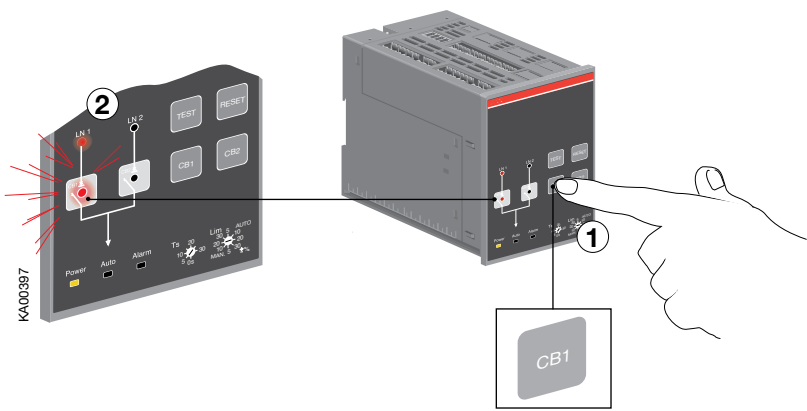

Figure 4.2 Selecting the operating line, the circuit breaker status and the chosen line indication with LEDs in ATS021
- b. When pushing the CB1 key (see the Figure 4.2/①), the circuit breaker CB1 will be in the ON position (the status and the line indication, see the Figure 4.2/②) and the circuit breaker CB2 will be in the OFF position. When the circuit breaker CB1 is already in the ON position, the CB1 led is ON (see the Figure 4.2). During switching the CB1 led blinks 50% ON and 50% OFF. If the circuit breaker CB1 is already in the ON position, pushing the CB1 key opens the circuit breaker.